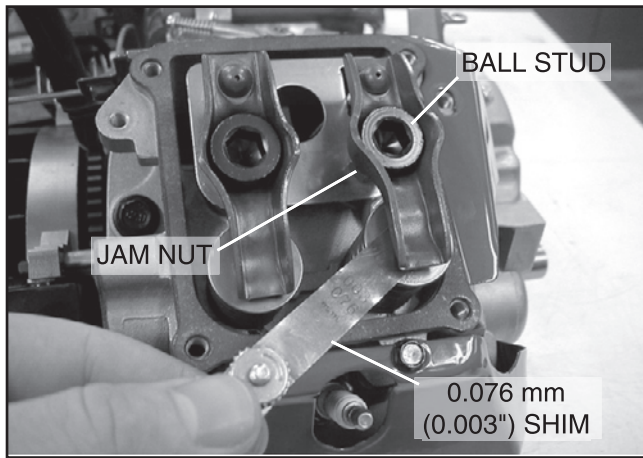

Figure 13-16. Adjust Valve Clearance
- a. Adjust rocker arms and check clearance, Figure 13-16.